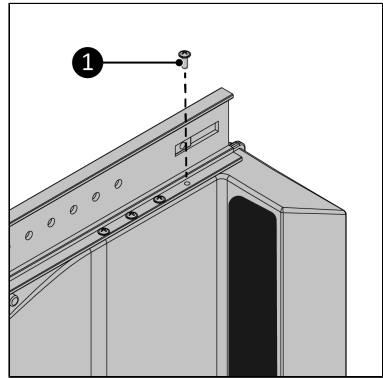

Figure 70.
6. Screw the main rail to the Way-out using the eight 3,5 x 12 mm screws (Figure 70, pos. 1). Make sure all screw holes match up.